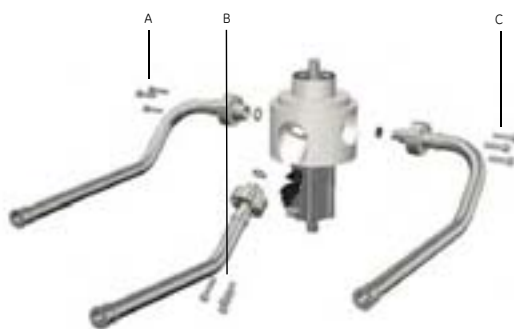

Figure 5.72: Bolts connecting the tubes to the media valve body.
- 4 Reposition the slurry inlet, rinse inlet and bottom mobile phase inlet/outlet tubes on the media valve. Tighten the bolts in steps up to 2.2 Nm (see Figure 5.72).
- 7 Reposition the Slurry inlet tube and Rinse inlet tube to the media valve body and tighten the tube bolts, in steps up to 2.2 Nm (see Figure 5.72 A and C).